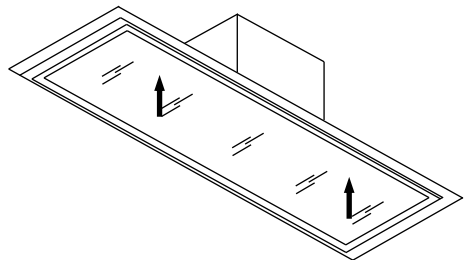

Fig 7
5. Push up at each side of the glass cover to shut (Fig 7).